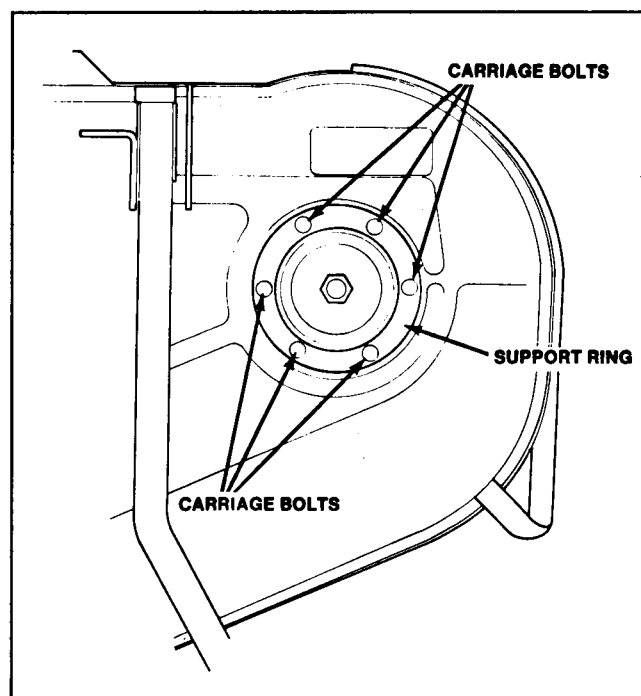

Figure 43
5. Remove the six carriage bolts and flange nuts holding the spindle housing assembly and the support ring against the cutting unit (Fig. 43). Slide the spindle housing assembly out the bottom of the cutting unit.
9. Slide the pulley end of the spindle assembly through the hole in the cutting unit. Mount the spindle assembly in place with the support ring and six carriage bolts and flange nuts (Fig. 43).